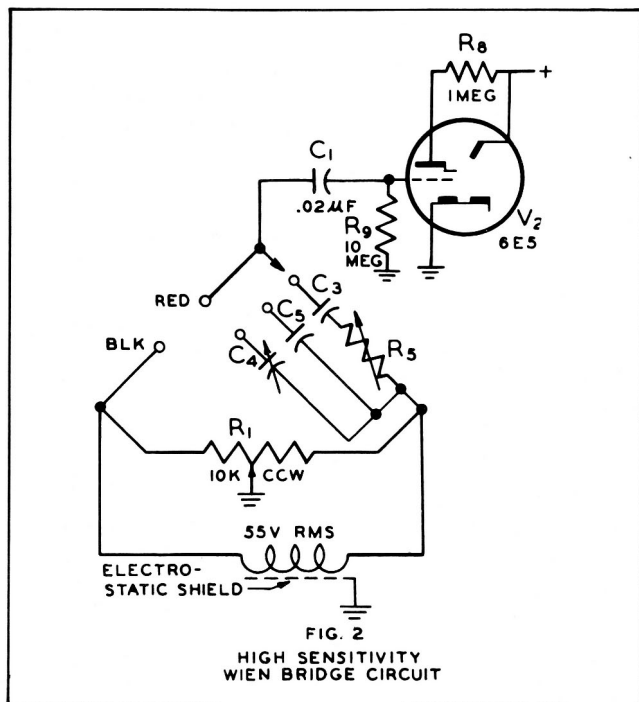
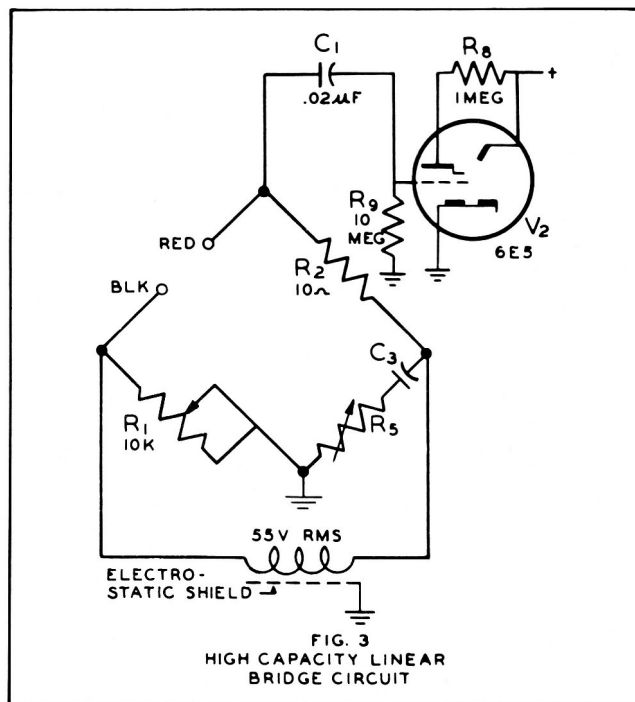

Figure 2. Bridge Circuit for C x .0001, C x .01 and C Ranges, Simplified Schematic Diagram
Figure 3. Bridge Circuit for HIC Range, Simplified Schematic Diagram
a. FUNCTIONAL DESCRIPTION. A four-range combination Wien and Wheatstone bridge circuit is used to measure capacitance at line frequency. The bridge can measure capacitance values from 10 uuf to 2000 uf. A simplified schematic diagram of the circuit employed for the C x .0001, C x .01 and C ranges is given in figure 2. Figure 3 is the circuit used for the HIC range, which measures higher capacitances—those in the range from 50 uf to 2000 uf. The main bridge control potentiometer, R1, which is the continuously-adjustable element of the bridge, is an accurately-calibrated wire-wound potentiometer, thus en-
suring accurate values for various dial settings. On the C x .0001 range, the standard capacitor used is a mica trimmer, thus permitting accurate adjustments to be made, compensating for distributed capacitance of the wiring in the test equipment. As shown in figure 3, a large fixed resistor, R2, is added to the resistance arm of the bridge to extend the coverage for the HIC range. An electron-ray indicator tube serves as a sensitive null detector.